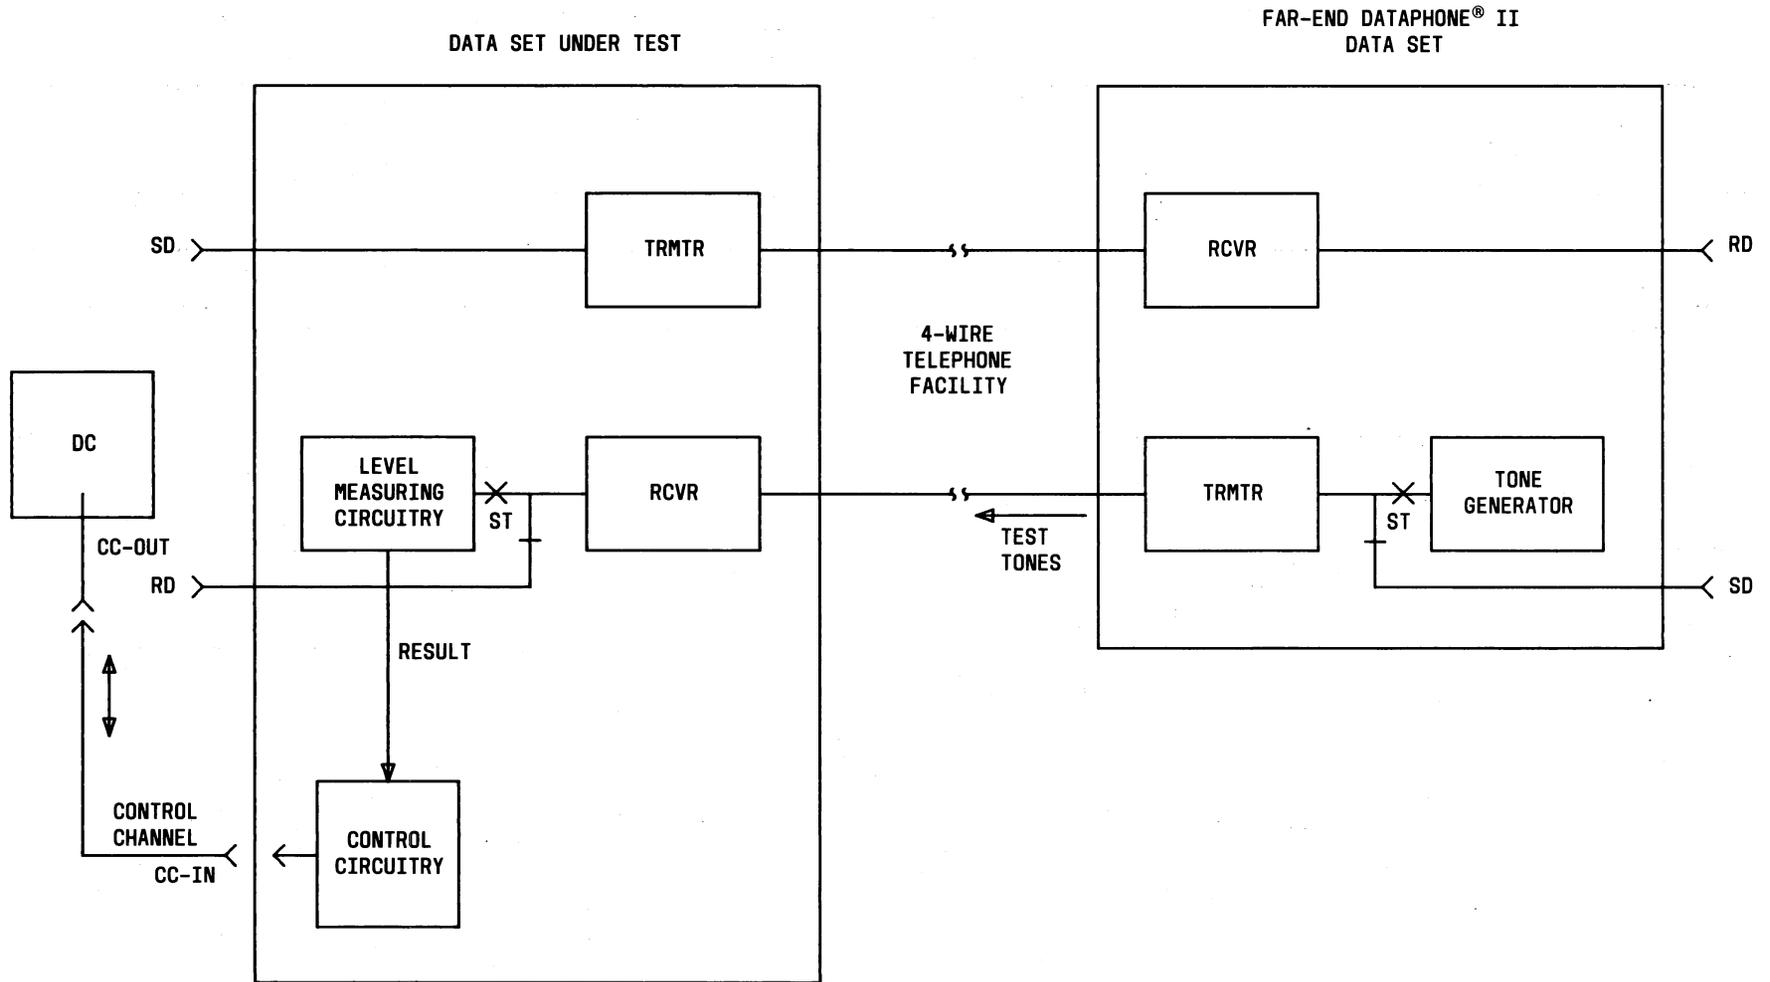
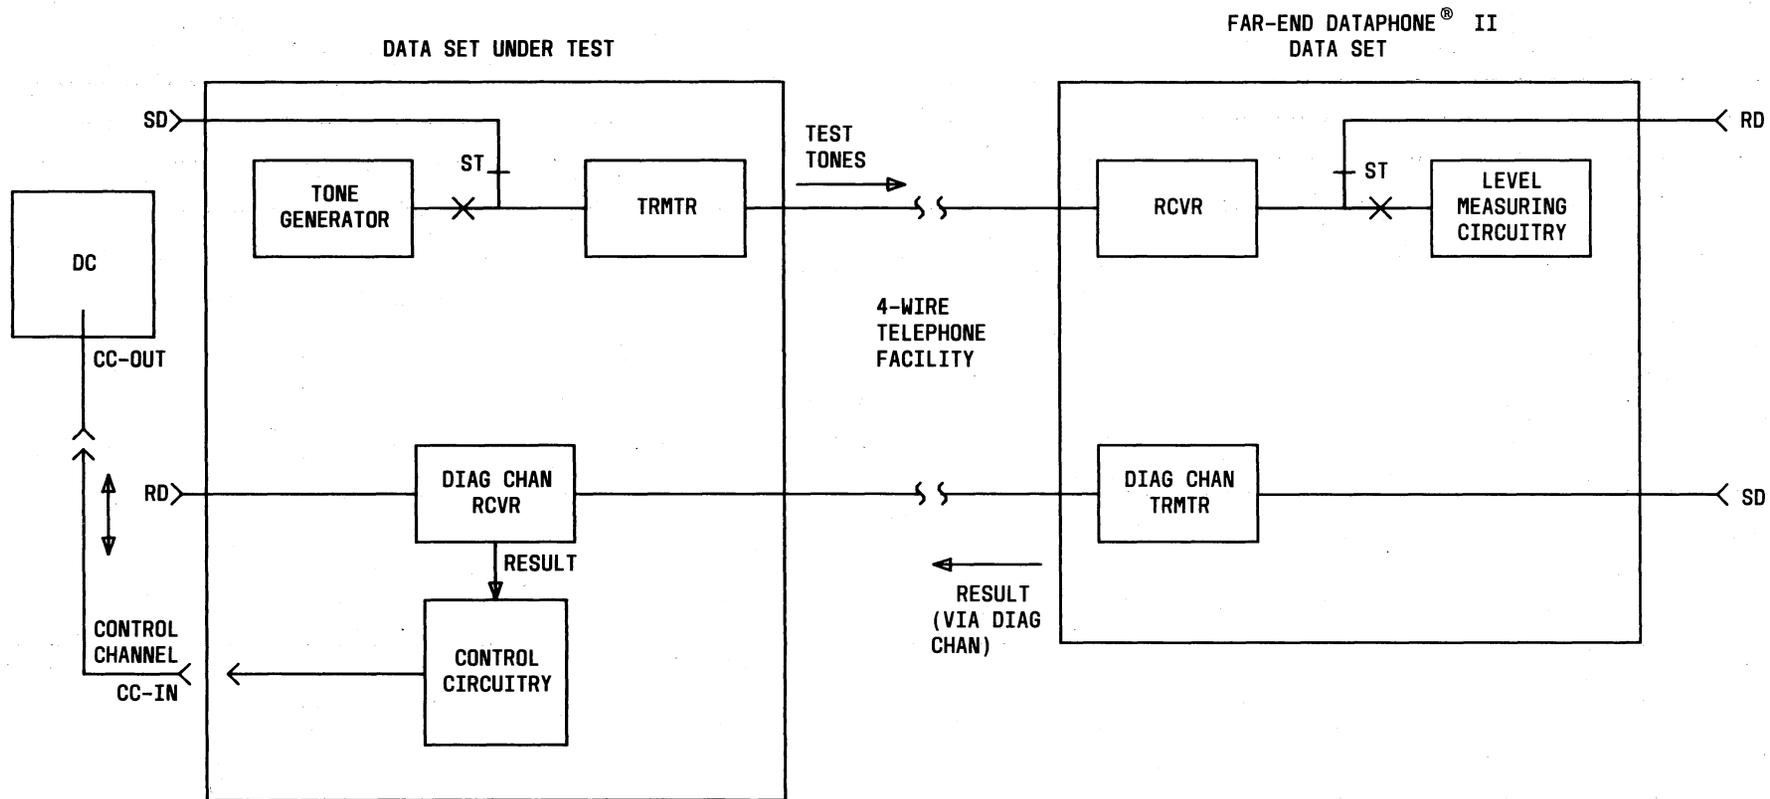

Fig. 9—Circuit Loss-In Subtest
Fig. 10—Circuit Loss-Out Subtest
3.51 This is a timed disruptive series of tests which can be directed to all data sets. There are six circuit loss (CL) subtests. Three subtests are CL-IN at 1004, 1804, and 2804 Hz (Fig. 9). Three subtests are CL-OUT at the same frequencies (Fig. 10). These subtests permit the user to measure the loss of the analog voice bandwidth circuit at three different frequencies both inbound to and outbound from a selected control data set.